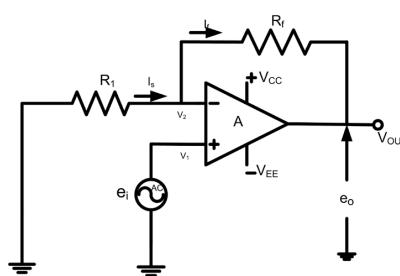

Fig. P23.2 Non Inverting Amplifier
4. Connect R_i and R_f as shown in Fig. P23.2.